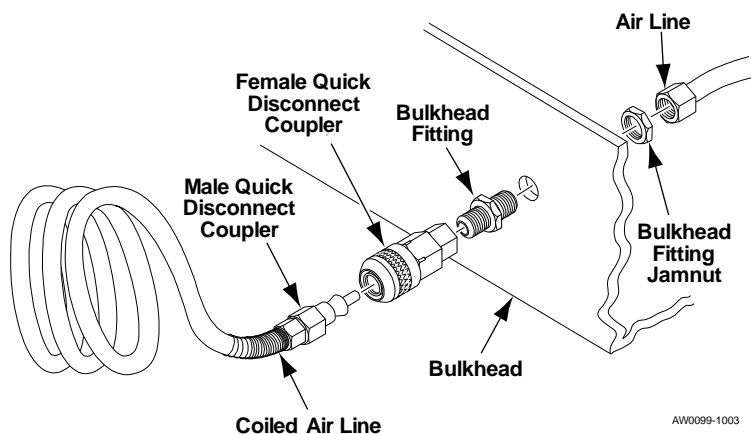

Figure 4. Installing Bulkhead Connector
10. Connect end of coiled air line (p/n: 380-0053-000) with male quick disconnect coupling to female quick disconnect coupling (p/n: 150-4092-000). See **Figure 4**.
11. Attach quick disconnect fitting (p/n: 150-4091-000) to one end of coiled air hose and couple to quick disconnect fitting (p/n: 150-4092-000) on front bulkhead of trailer. See **Figure 4**.